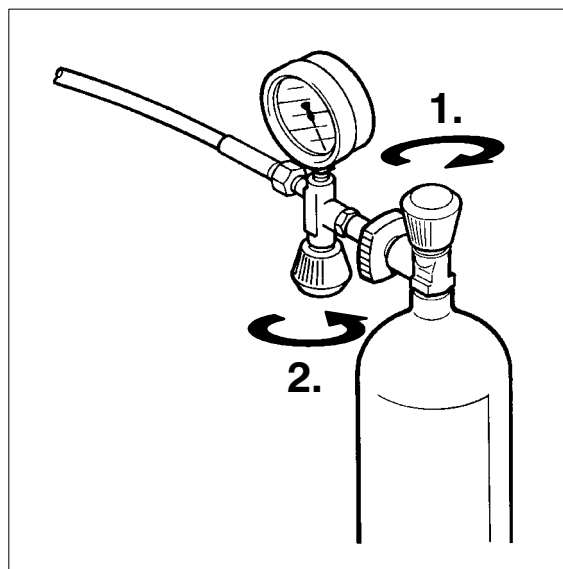

Fig. 42 Removing air bottle
- Upon reaching final bottle pressure **close bottle valve first (1, Fig. 42), then filling valve** by returning handle to closed position.
- Remove compressed air bottle (2).